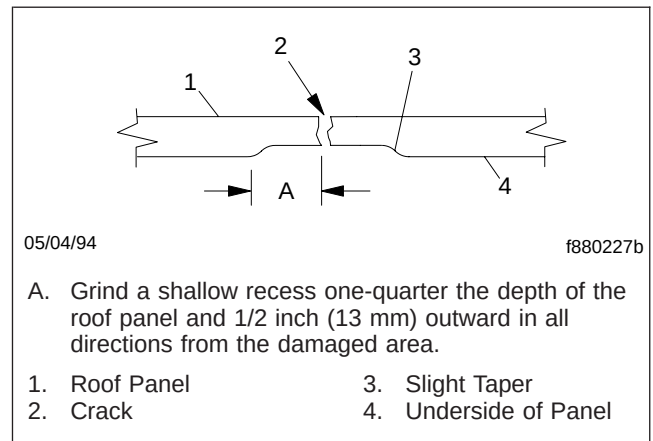

Fig. 4, Recessed Area (cross-sectional view)
5. On the inner surface of the panel, use a router bit (on a grinder or a drill) to grind away a shallow recess one-quarter the depth of the roof panel and 1/2 inch (13 mm) outward from all sides of the damage. Taper the outside edge of the ground area; see Fig. 4.